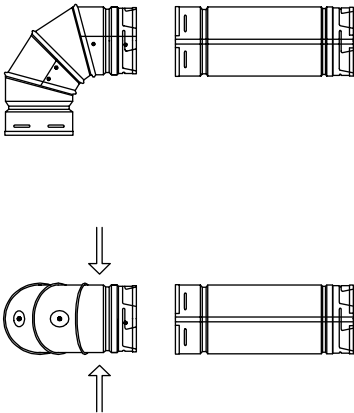

Figure 20
3. 90° Elbows. *Figure 20*. The installer should apply pressure to the section at the points indicated by the arrows. This will prevent the adjacent sections of the elbow from turning, as the next pipe or fitting is twist-locked on. This is important, because once these sections start rotating, the elbow does no longer have a 90° angle.